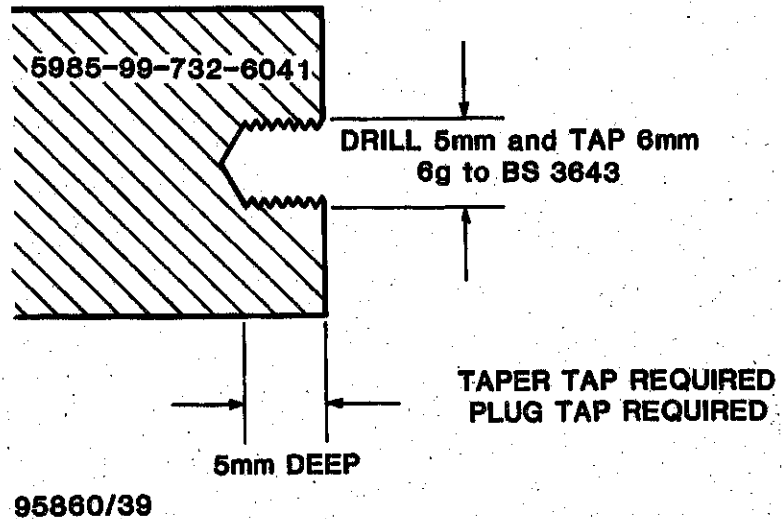

Fig 1
- 6.2 Drill and tap a 6 mm x 5 mm hole, as shown in Fig 1.